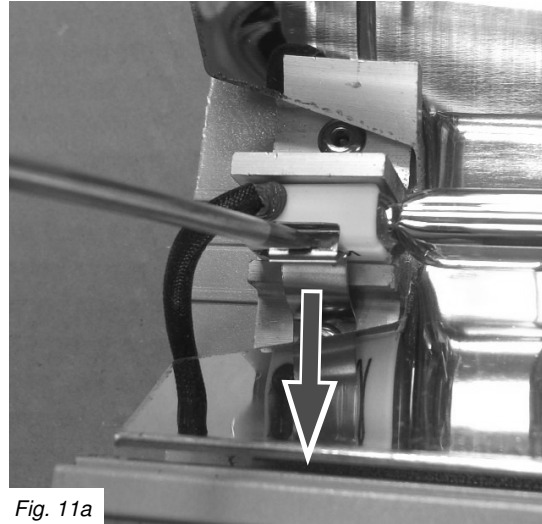
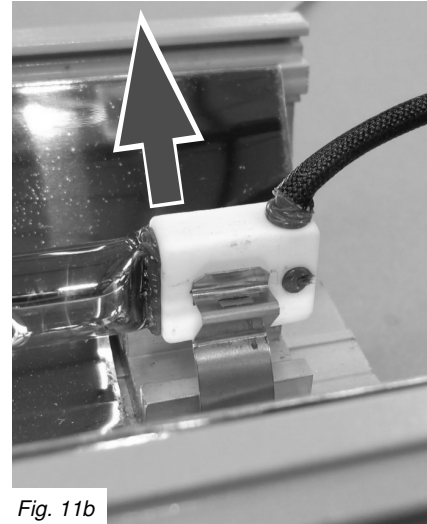

Fig. 11a
Fig. 11b
11. The lamp is held in at each end by spring clips that hold the lamps ceramic caps in the lamp holders. Pull the clips back (Fig. 11a) far enough to allow the ceramic caps to be lifted up (Fig. 11b) at both ends and remove the lamp from the heater.